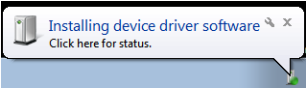
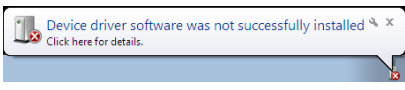

Figure 4 The USB driver installation message 1
Figure 5 The USB driver installation message 2
- If you have first connected the ML62Q1747 Application Board to PC, the messages of the following Figure 4 and Figure 5 are displayed in sequence.